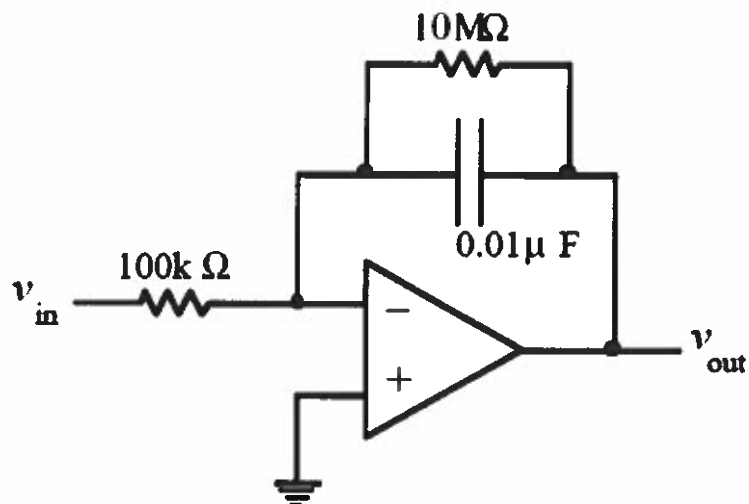

Figure 4A. Schematic of Integrator Op-Amp
1. Construct the circuit shown in Figure 4A